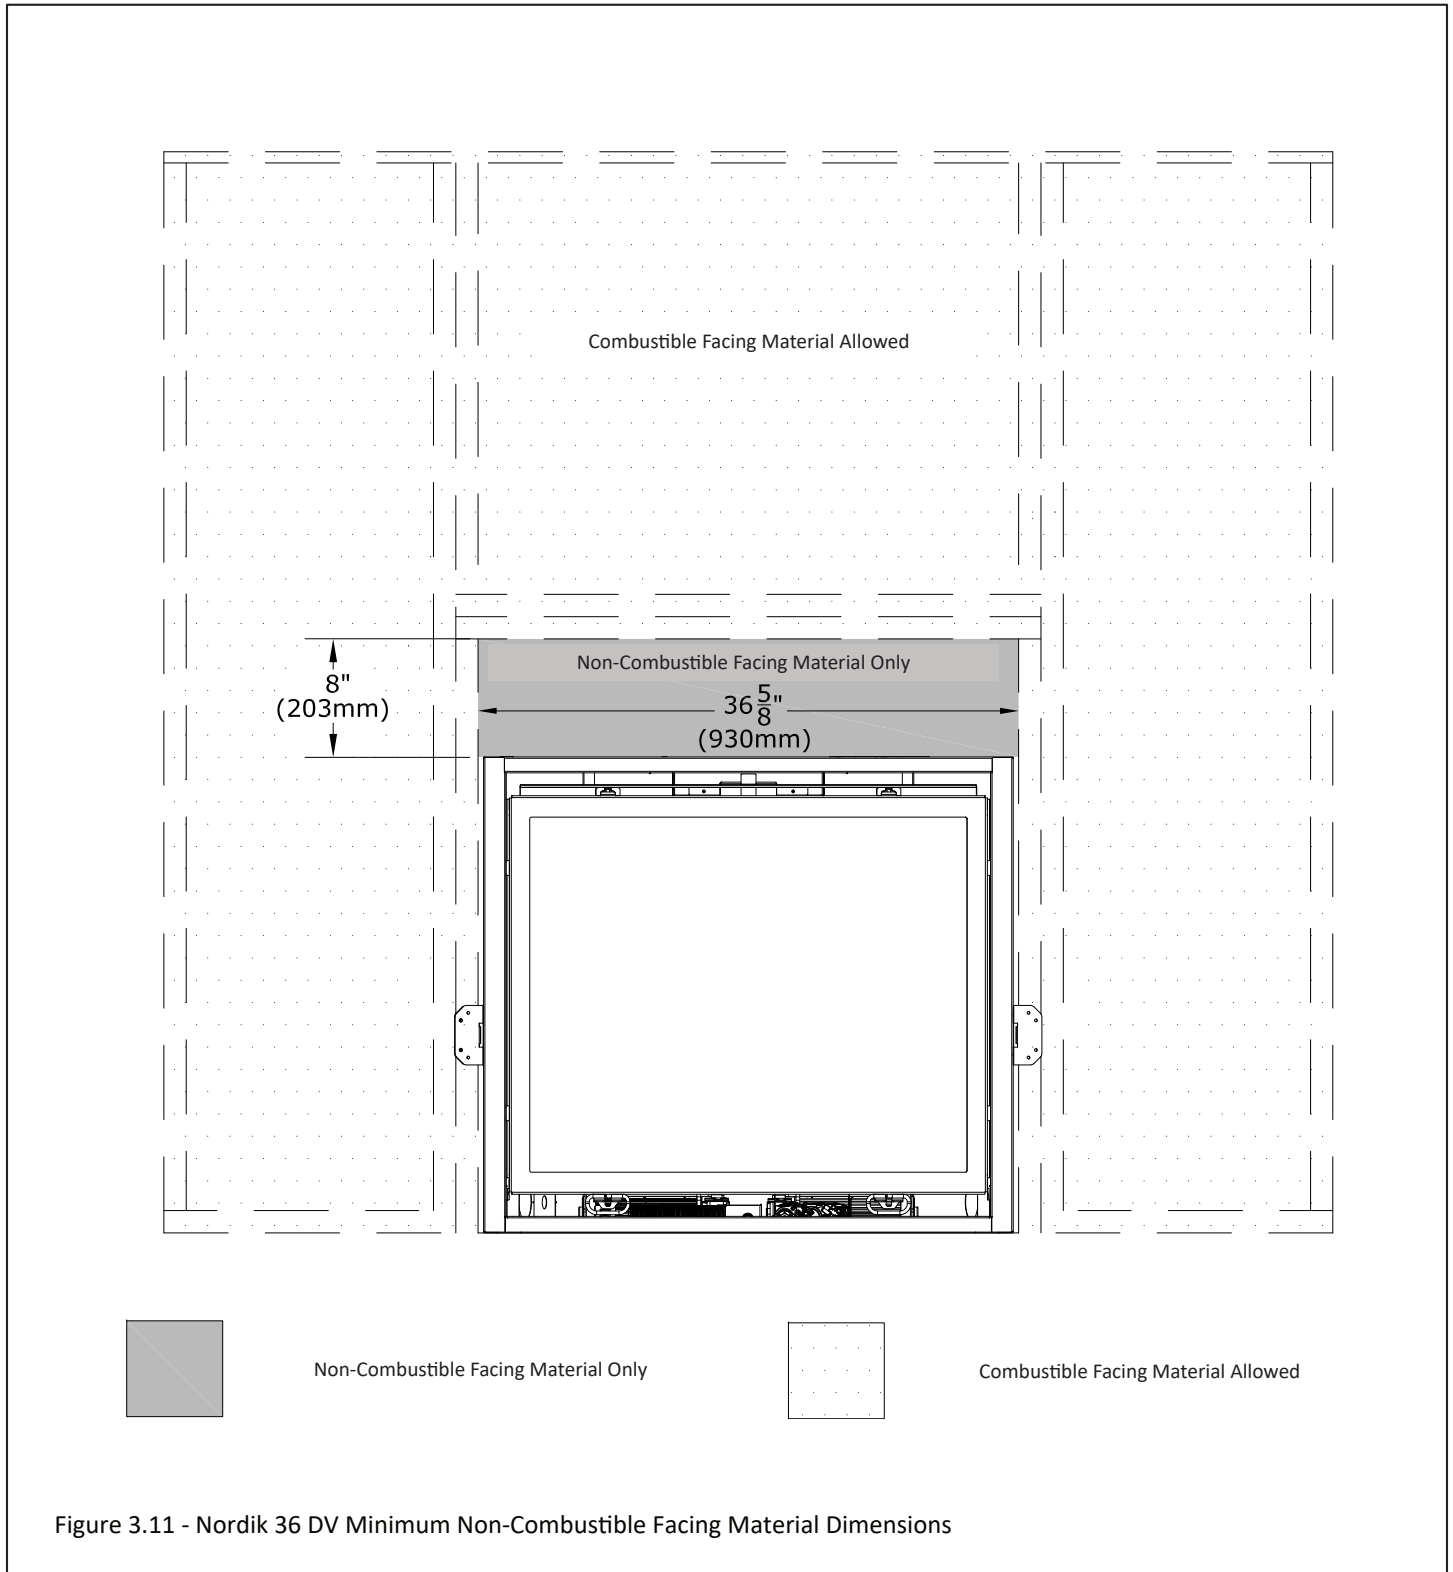
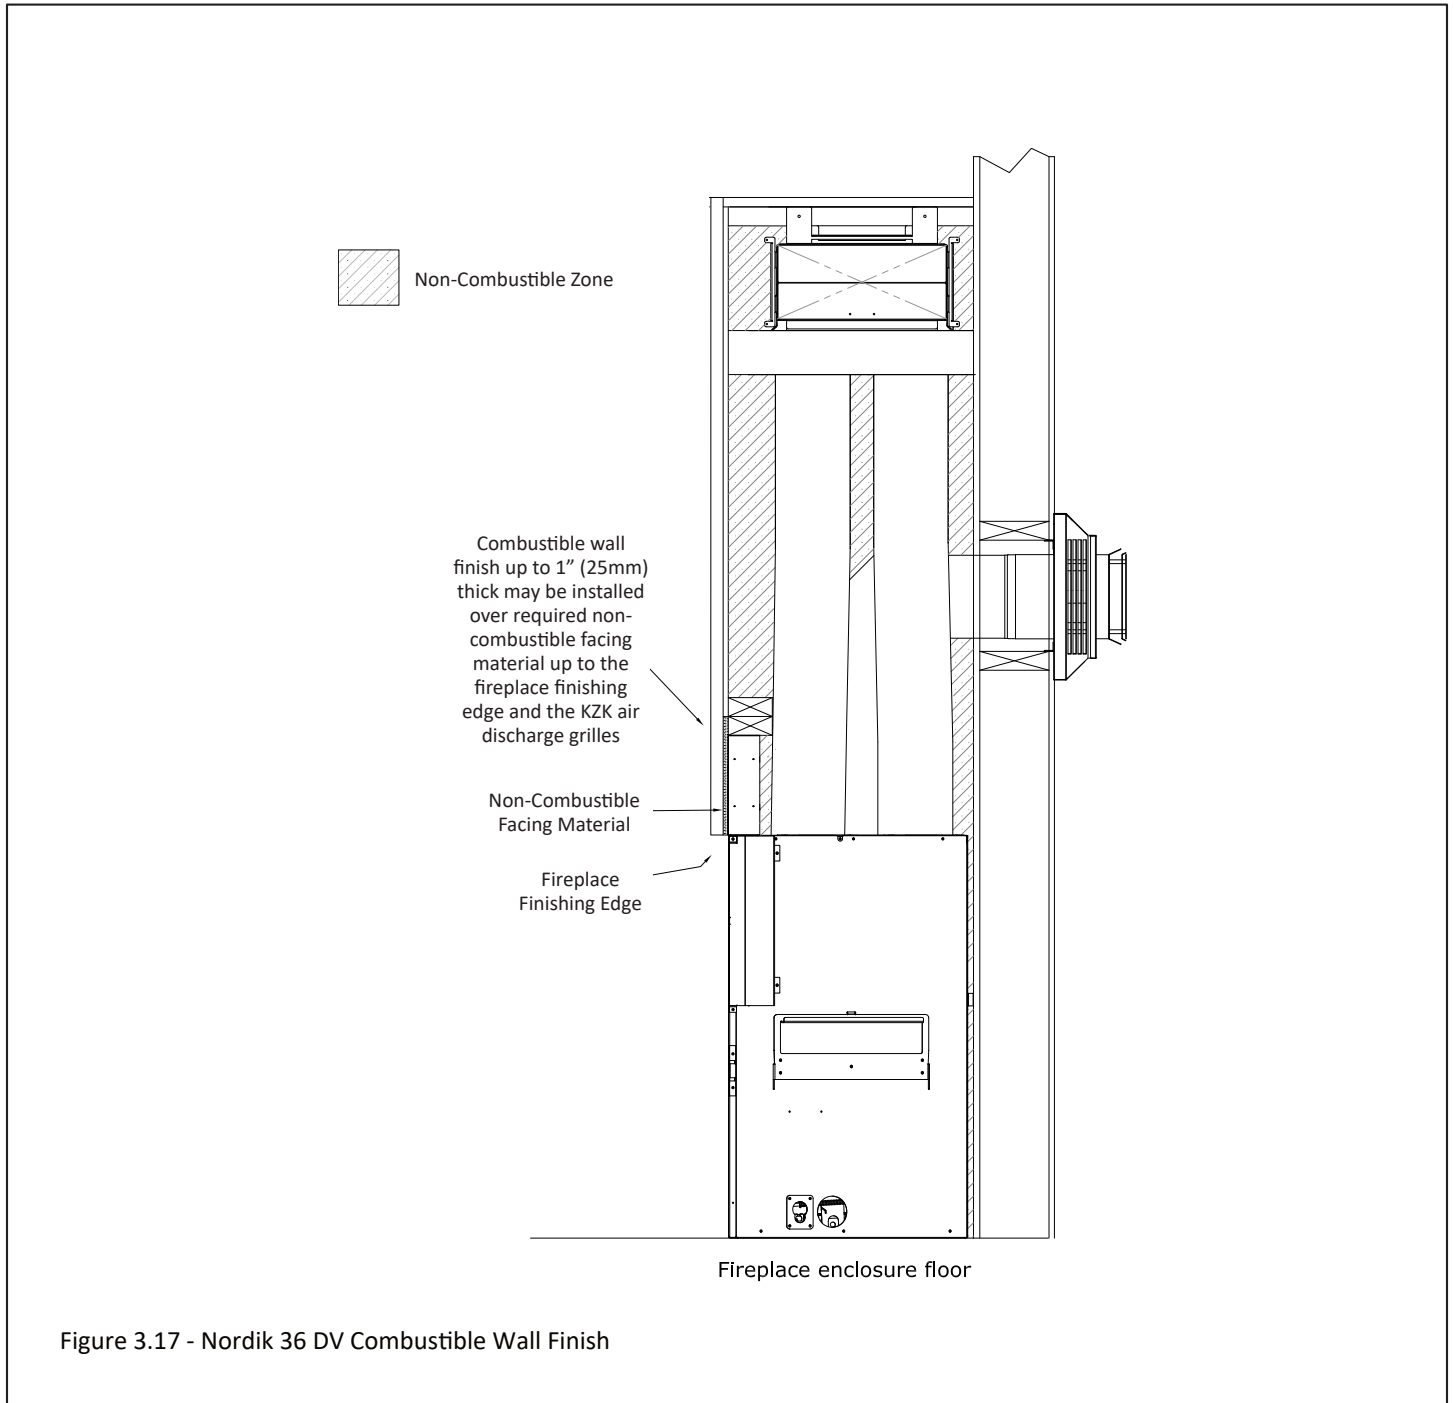

Figure 3.11 - Nordik 36 DV Minimum Non-Combustible Facing Material Dimensions
Figure 3.17 - Nordik 36 DV Combustible Wall Finish
Figure 3.17 shows installation of combustible wall finish up to 1" thick for the Nordik 36 DV. This combustible material goes over any required non-combustible materials as shown in Figure 3.11.
- Figure 3.7 and 3.8 (Callaway Series), Figure 3.9 and 3.10 (Bellingham Series), and Figure 3.11 and 3.12 (Nordik Series) show the Non-Combustible Finishing Zones for the minimum requirement of non-combustible facing material.